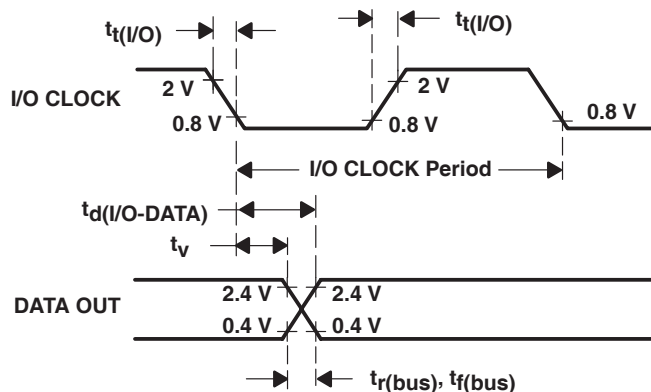

Figure 5. I/O CLOCK and DATA OUT Voltage Waveforms
9. I/O CLOCK period = 1/(I/O CLOCK frequency). Sampling begins on the falling edge of the third I/O CLOCK, continues for seven I/O CLOCK periods, and ends on the falling edge of the tenth I/O CLOCK (see Figure 5).